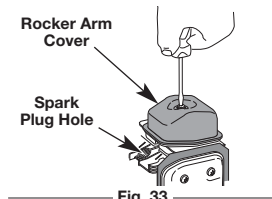

Fig. 33
5. Clean dirt from around the rocker arm cover. Remove the screw holding the rocker arm cover with a large flat blade screwdriver or Torx® T-25 bit (Fig. 33). Remove the rocker arm cover and gasket.
- The piston is at the top of its travel while looking in the spark plug hole (Fig. 33).